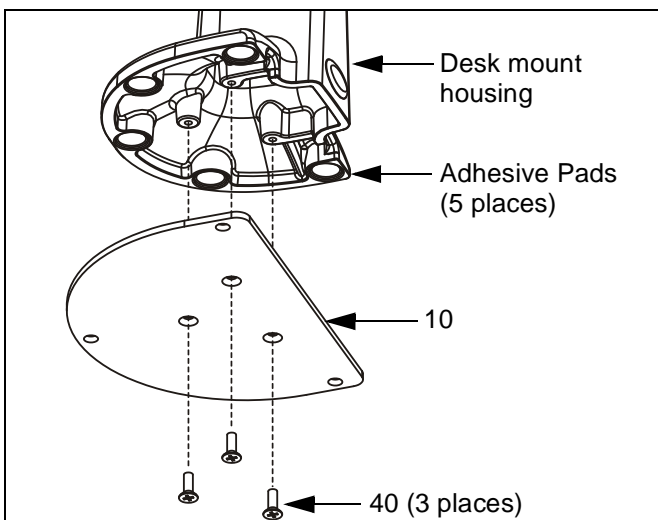

Figure 5: Install Bracket
1. Using Phillips screwdriver, install bracket (10) to desk mount housing with three screws (40) (See Figure 5). Tighten securely.